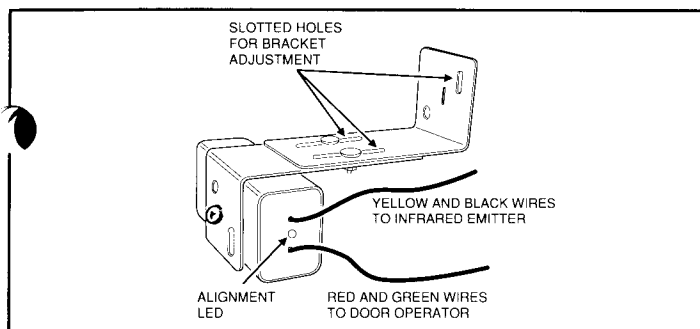

Figure 24
**Step 46:** Run the yellow and black wires attached to the detector up and over the door to the terminals on the emitter. Attach wires to emitter terminals by color as shown on label. (See Figure 24 and 25) Use insulated staples to fasten wires to walls surrounding garage door.